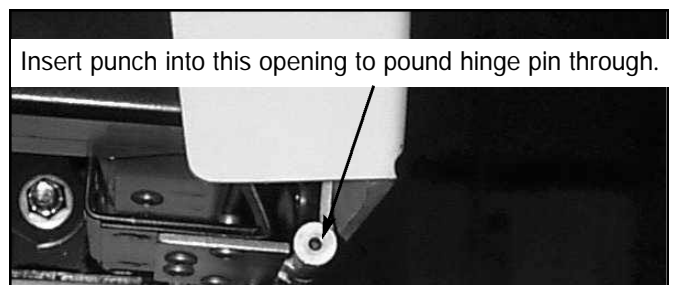

Figure 11-2
6. With the door cover in the closed position, locate the door hinges at the bottom outside edge of the tank pack assembly. Remove the hinge pins by inserting a 0.1 inch (2.54 mm) punch into the hinge pin opening. With a 16 oz. hammer, pound the pin out the opposite side of the hinge. Repeat this step to remove all hinge pins for each door. Reference Figure 11-2 for the correct location to place the end of the center punch to remove (drive out) the hinge pin.